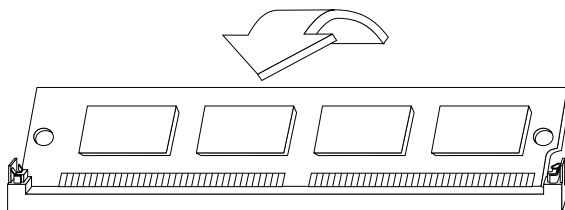

Figure 3-4 Tilting Up the SIMM to a Vertical Position
- *Tilt the SIMM up into a vertical position, as shown in Figure 3-4. There should be a slight click when the SIMM reaches the vertical position as the metal latches snap up around the SIMM. The SIMM is positioned correctly when the latches on both sides of the SIMM socket are hugging the edges of the SIMM.*